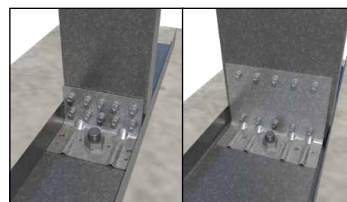

Figure 3 Kwik-Bolts
- A "%" in the shear column indicates that the shear capacity is limited to 1970 lbs when using 1/2" x 2-1/4" Hilti Kwik-Bolts to 3000psi concrete as shown in Figure 3.